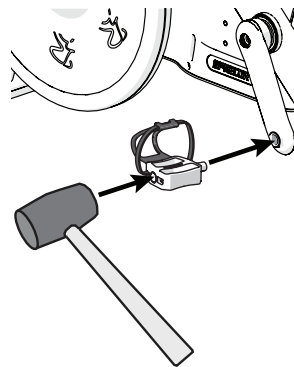

Figure 12
- 1. Insert a pedal into its corresponding crank arm (Figure 12).
- 2. Use a rubber mallet to lightly tap the center of the pedal into the crank arm to seat it (Figure 12).